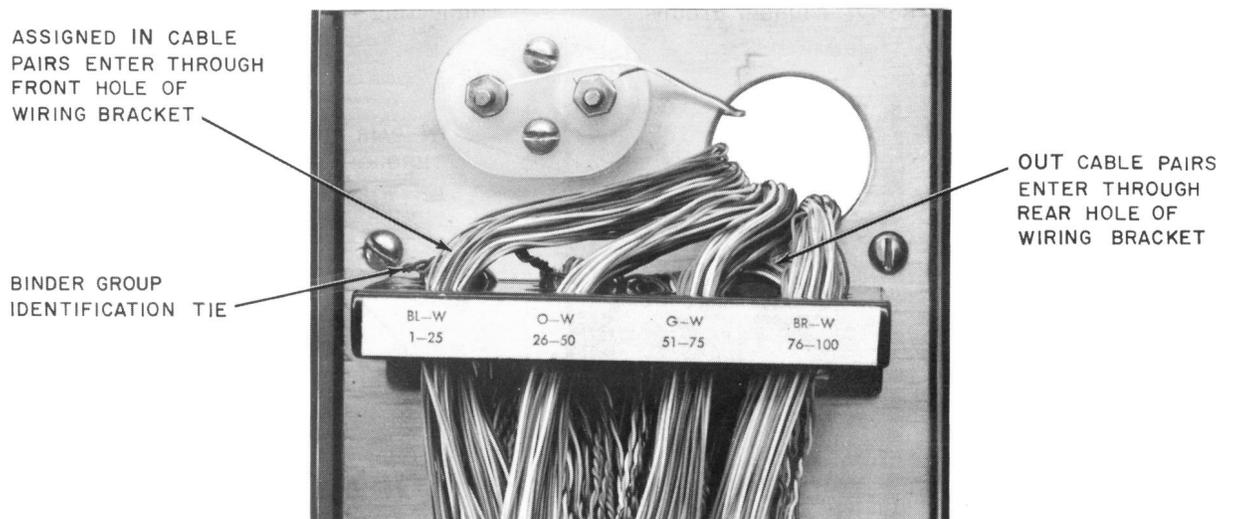

Fig. 9—Assigned *IN* Cable Pair Routed Through Front Holes of Wiring Bracket
5.04 Pull the assigned *IN* pair from the binder group and place in the *front* wiring bracket hole (Fig. 9) corresponding to the assigned *OUT* cable pair to which it is to be connected. **Do not remove the *OUT* cable pair from the rear hole of the wiring bracket.**